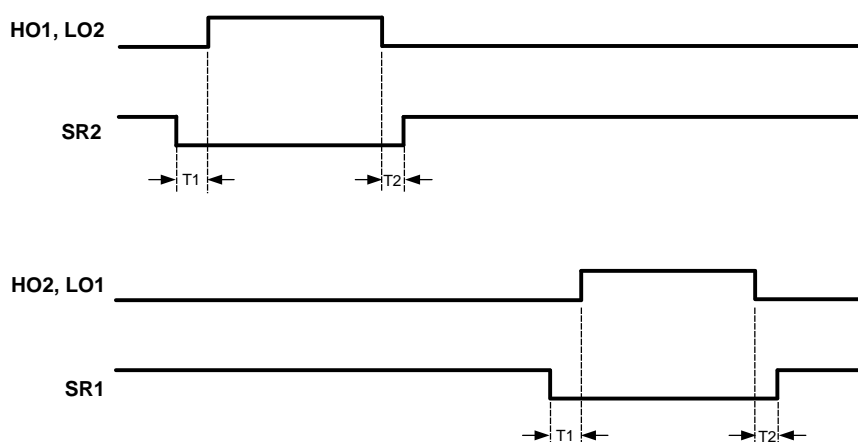

Figure 13. Synchronous Rectifier Timing Diagram
Synchronous rectification (SR) of the transformer secondary provides higher efficiency, especially for low output voltage converters, compared to the diode rectification. The reduction of rectifier forward voltage drop (0.5 V to 1.5 V) to 10 mV to 200 mV VDS voltage for a MOSFET significantly reduces rectification losses. In a typical application, the transformer secondary winding is center tapped, with the output power inductor in series with the center tap. The SR MOSFETs provide the ground path for the energized secondary winding and the inductor current. From Figure 13 it can be seen that when the HO1/LO2 diagonal is turned ON, power transfer is enabled from the primary. During this period, the SR1 MOSFET is enabled and the SR2 MOSFET is turned-off. The secondary winding connected to the SR2 MOSFET drain is twice the voltage of the center tap at this time. At the